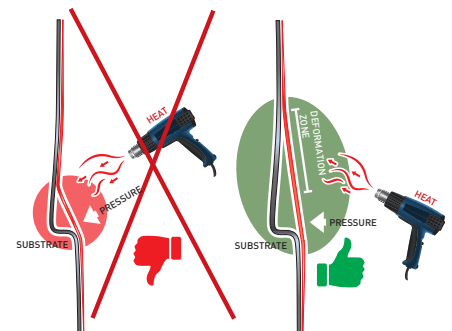

Figure 11
- › Stretch the vinyl on the substrate so that the film touches the raised parts only. (FIG. 11)